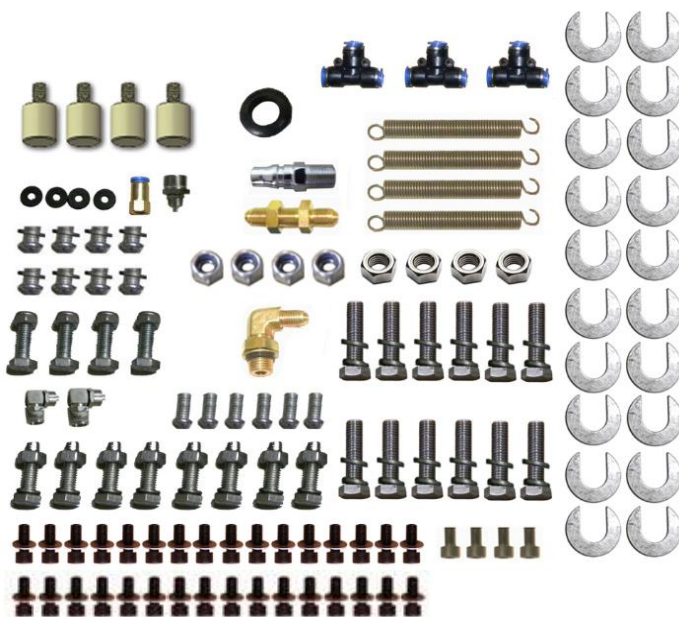

Fig. 8
6. Open the carton of parts and check the parts according to the parts box list (See Fig. 8).